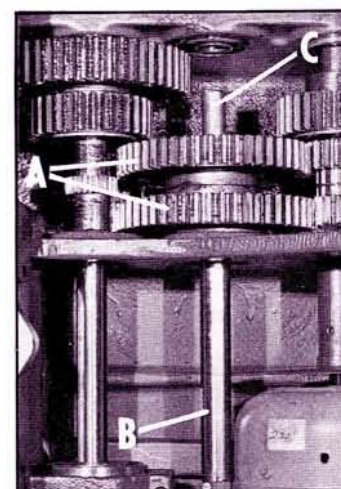

Fig. 24
5. Position the gear assembly (A) with shaft (C) Fig. 24, in place in the head of the drill press, as shown. Remove snap ring located on bottom of shaft (B) Fig. 24.
6. Holding the lower bearing in place, drive shaft (B) Fig. 24, up through gear assembly until the top of shaft (B) is approximately  $\frac{1}{4}$ " above top gear of gear assembly (A) Fig. 24. Make sure keyway in shaft (B) engages keys in gear assembly and remove temporary shaft (C) Fig. 24.